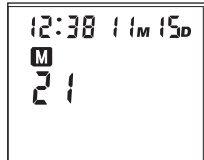

Fig. 1
1. Press and release the **M** (MEMORY) button. The unit will briefly show how many readings are stored within the bank, Fig. 1.